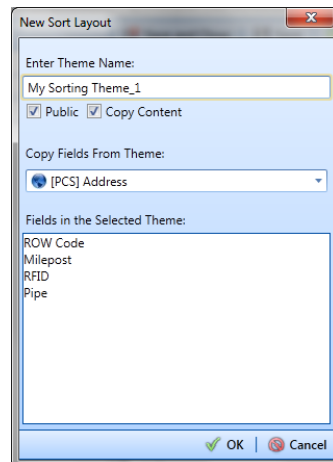

Figure 8-46. New Sort Layout
- 4 Click  **Add** to open the *New Sort Layout* dialog box (Figure 8-46, page 401).